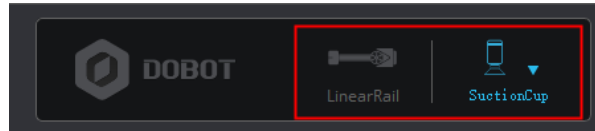

Figure 5.3 The linear rail and end-effector drop-down list
- You can select the liner rail or an end-effector on the DobotStudio page, as shown in Figure 5.3.